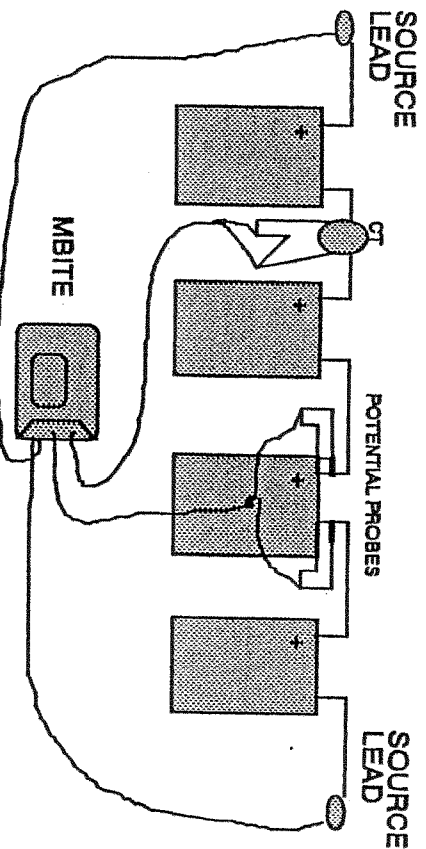

Figure 7: Connection Diagram
4. Connect the current source leads to base measurement unit connector J2. Connect the clamp-on current sensor (CR) plug to the base measurement unit connector J3. Also connect the potential probes to connector J4. See Figure 5 for the location of connections and Figure 7 for a connection diagram. Confirm that connections are to the battery post and not to intercell connection hardware.